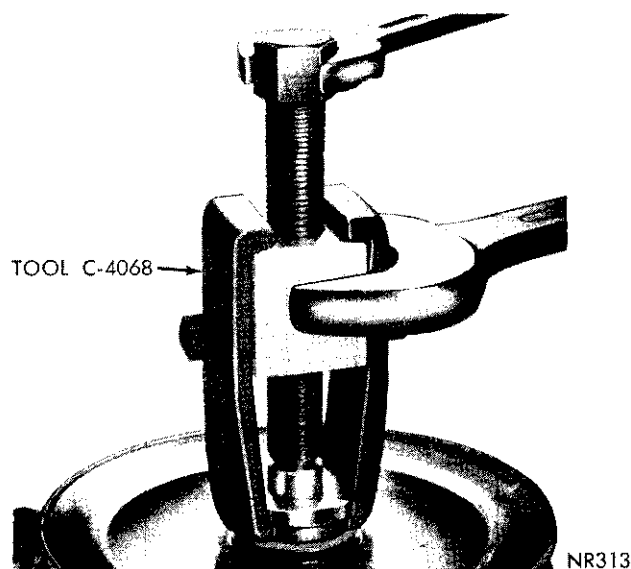

Fig. 20—Removing Drive Pulley (1.06 Pump) or score marks that would allow oil to by-pass outer seal surface.
(1) Remove pump from engine. Drain reservoir and clean exterior before servicing.
(2) Clamp pump in vise securely at mounting bracket.
(3) Remove pulley with Tool C-4068 (Fig. 20).
(4) Position seal remover adapter SP-5323A over end of drive shaft with large opening toward pump.
- (1) Remove pump from engine. Drain reservoir and clean exterior before servicing.
- (2) Clamp pump securely in vise at mounting bracket.
- (3) Remove pulley with Tool C-4068 (Fig. 20).
- (4) Remove oil seal as described in "Oil Seal Replacement" section.
(5) Remove pump from vise and remove three mounting bracket bolts, remove bracket.
(6) Remove reservoir and place pump in vise with shaft down (use vise with soft protective jaws). Discard mounting bolt and reservoir "O" rings.